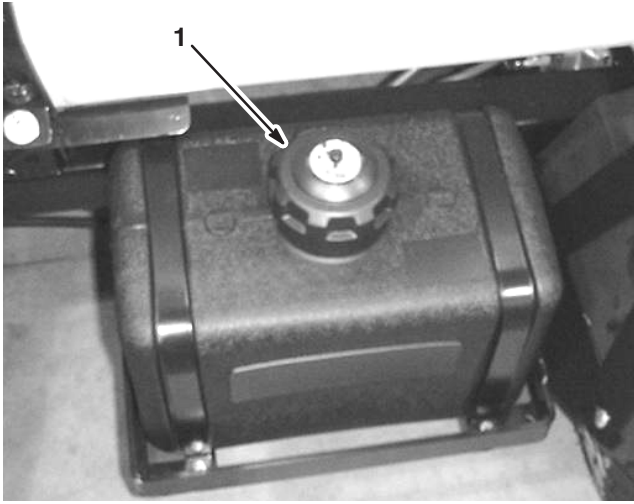

Figure 6
2. Clean the area around the fuel tank cap (Fig. 6).